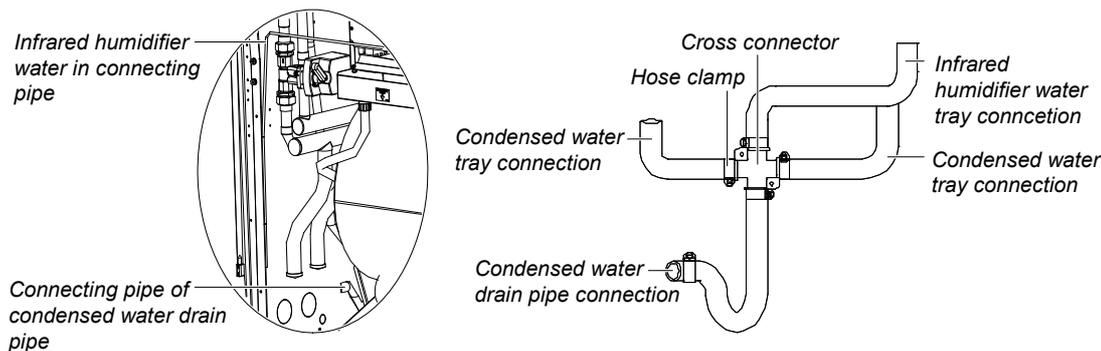

Figure 2-24 Connection of water in and out pipes
The condensing water of infrared humidifier and evaporator is converged by the cross connector and drains through the drain pipe, as shown in Figure 2-24. The outer diameter (OD) of the pipe is 25mm. If the drain pipe is used by three or more units, the minimal OD of the pipe should be 40mm.